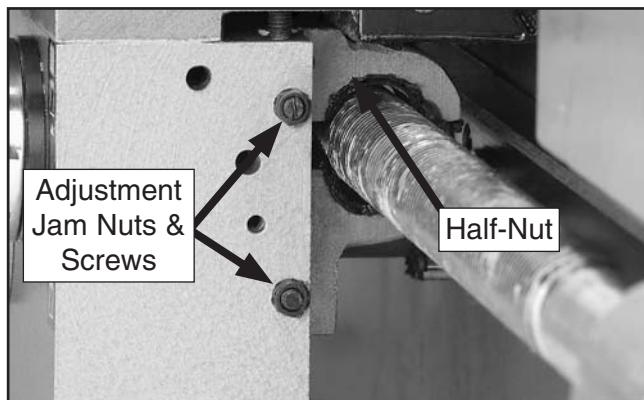

Figure 106. Half-nut gib adjustment jam nuts and screws (viewed with thread dial removed).
3. Loosen the two jam nuts shown in **Figure 106**, then rotate the adjustment screws.